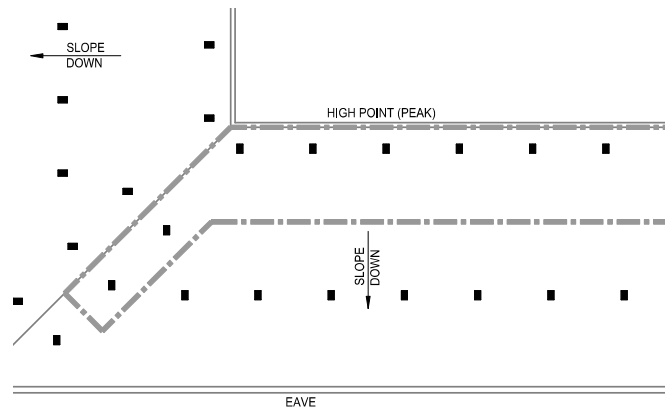

FIGURE 24B: 2 ROW PROTECTION CALCULATION #1
- Calculation #1: Calculate the 7 most hydraulically demanding contiguous DS sprinklers located along the high point (peak) plus the 2 most demanding sprinklers along the hip line. See Figure 24B.